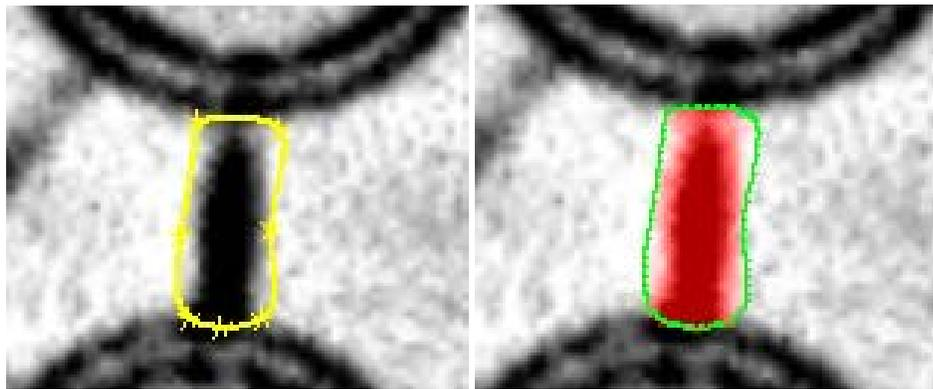

Figure 21: Points Surrounding Volume (left), Segmented Object (right)
3. Use the middle mouse button to define anchor points, creating a closed path around the object. Only a few points are necessary. The path can be defined using either the **Spline** or **Piecewise** interpolation-mode radio buttons. Spline interpolation connects the anchor points with smooth curves; piecewise interpolation connects them with straight lines. Figure 21 shows the results using spline interpolation.
4. Press the **Segment** button. The interior of the volume is now marked with a red overlay and the anchor path turns green (see Figure 21). All points in the interior on this slice have now been added to the VOI for this object.